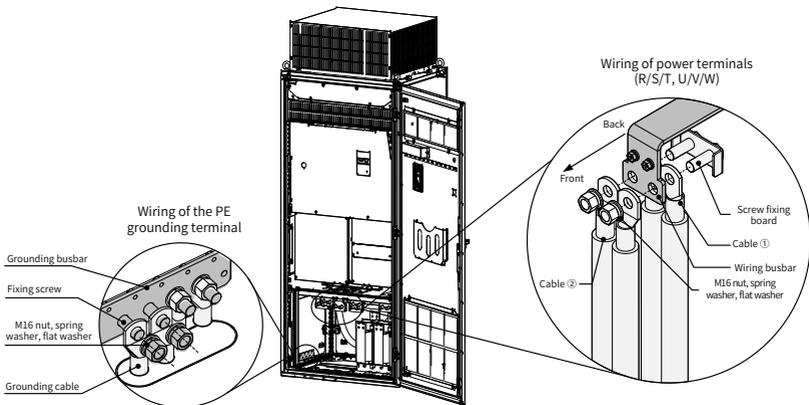

Figure 4-9 Wiring of main circuit terminals and PE grounding terminals of MD500T500G to MD500T630G (example)
■ Wiring of the grounding terminal (PE)
Step 1: Fix the grounding cable on the fixing screw rod, as shown in Figure 4-9.
Step 1: Fit two cables ( ① ) on the screws on the screw fixing board, as shown in Figure 4-9.
Step 2: Fit the grounding busbar on the screw fixing board from the back, fit another two cables ( ② ), and then put the flat washers and spring washers.